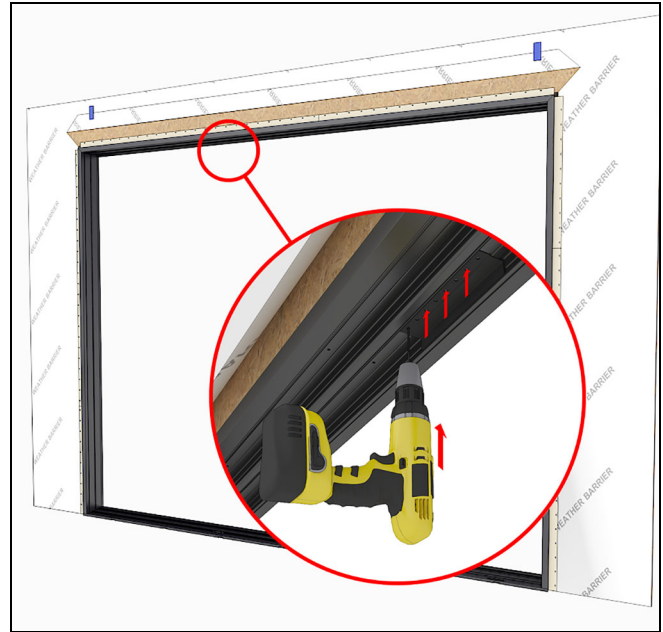

Figure 111
2. Pre-drill a 3/16" hole through the head jamb using the bracket as a template. Pre-drill at each outside hole of the bracket, and at least once more in the middle of the bracket. See Figure 111.